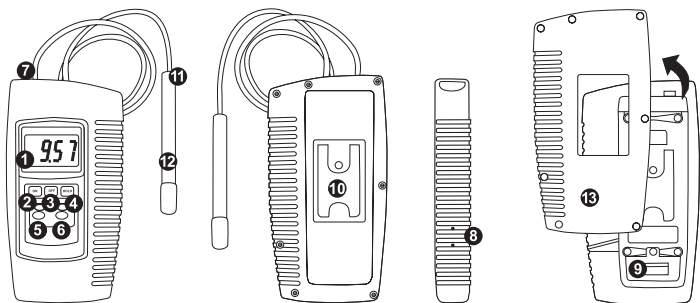

Figure 1
- 1) Connect the Conductivity Electrode (Figure 1, 12) to the Electrode Input Socket (Figure 1, 7).
- 3) Select the 2 mS/cm or 20 mS/cm range by pressing the appropriate range button (Figure 1, 5 or 6).
- 4) Holding the electrode handle (Figure 1, 11), immerse the conductivity electrode completely in the sample.
- ii) Select the 2 mS/cm range (Figure 1, 5).
- iii) Holding the conductivity electrode by its handle (Figure 1, 11), immerse it completely in the calibration solution. Shake the electrode to disperse air bubbles on it and allow measurements to stabilise. Adjust „Calibration Adjust LR“ (see above) until the display reads exactly 1.413 mS/cm.
- ii) Remove the protective cover before replacing the battery. To replace the battery, remove the Battery Compartment Cover (Figure 1, 9) on the rear of the meter.